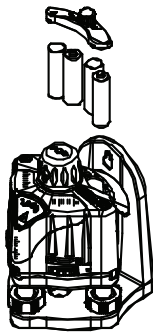

FIG. 2
- a) Unscrew the battery cover as shown in FIG. 2.